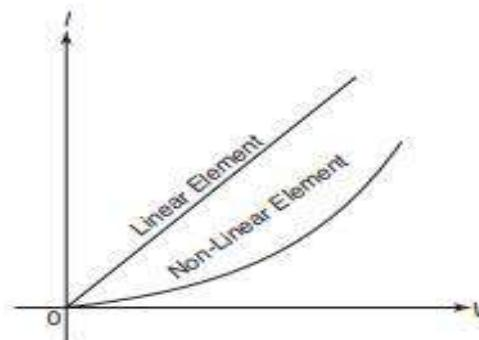

Fig. 1.8 V-I characteristics of linear and non-linear elements
- Linear and Non-linear Elements** If the resistance, inductance or capacitance offered by an element does not change linearly with the change in applied voltage or circuit current, the element is termed as *linear element*. Such an element shows a linear relation between voltage and current as shown in Fig. 1.8. Ordinary resistors, capacitors and inductors are examples of linear elements.
A non-linear circuit element is one in which the current does not change linearly with the change in applied voltage. A semiconductor diode operating in the curved region of characteristics as shown in Fig. 1.8 is a common example of non-linear element.